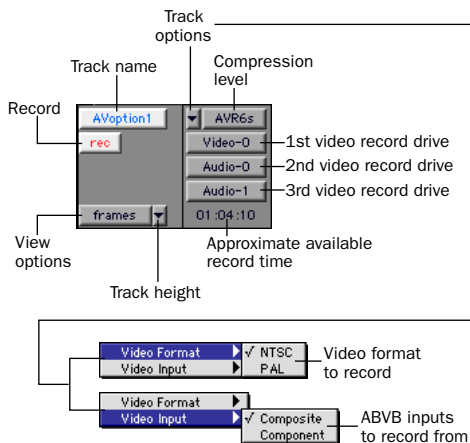
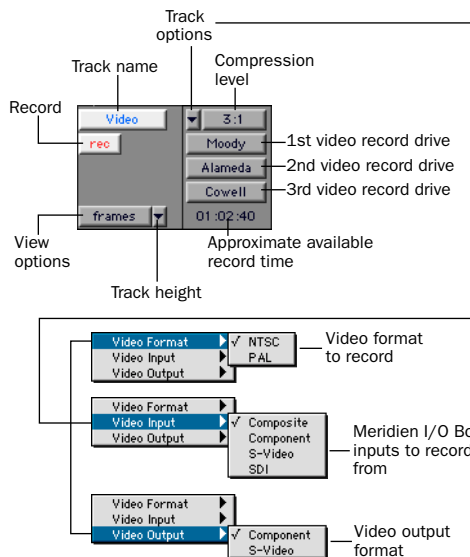

Figure 3. Movie track controls (AVoption)
Figure 4. Movie track controls (AVoption XL)
- 1 On the Movie track, click the Track options pop-up. See Figure 4 on page 35.
- 2 Select a video format by clicking the Track options button (see Figure 3 and Figure 4), then selecting Video Format. You can select NTSC or PAL format.